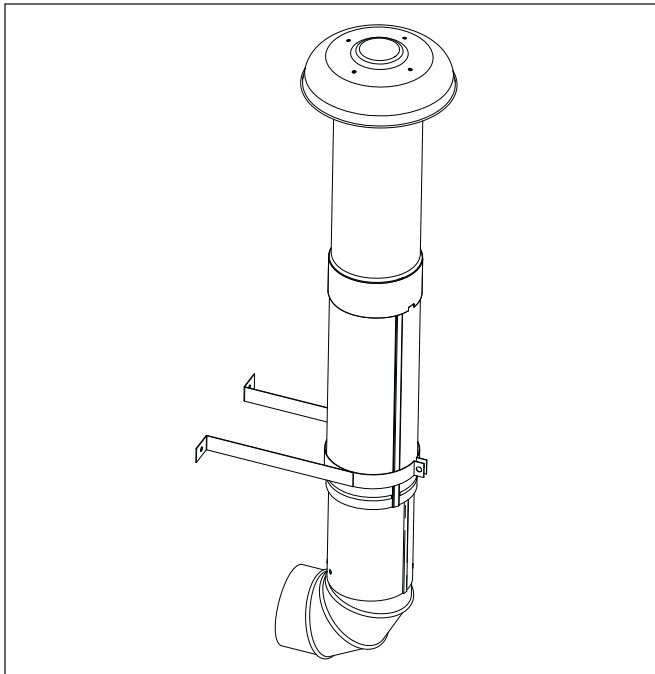

Figure 3. Flue Assembly
5. Connect the flue body to the five inch 90 degree elbow using three of the self drilling screws. The screws must be spaced at even intervals (120 degrees apart) around the inner portion flue body. The screws need to be no less than ½ inch from both the crimped end of the elbow and the flue body. See Figure 3 for the assembly up to this point.